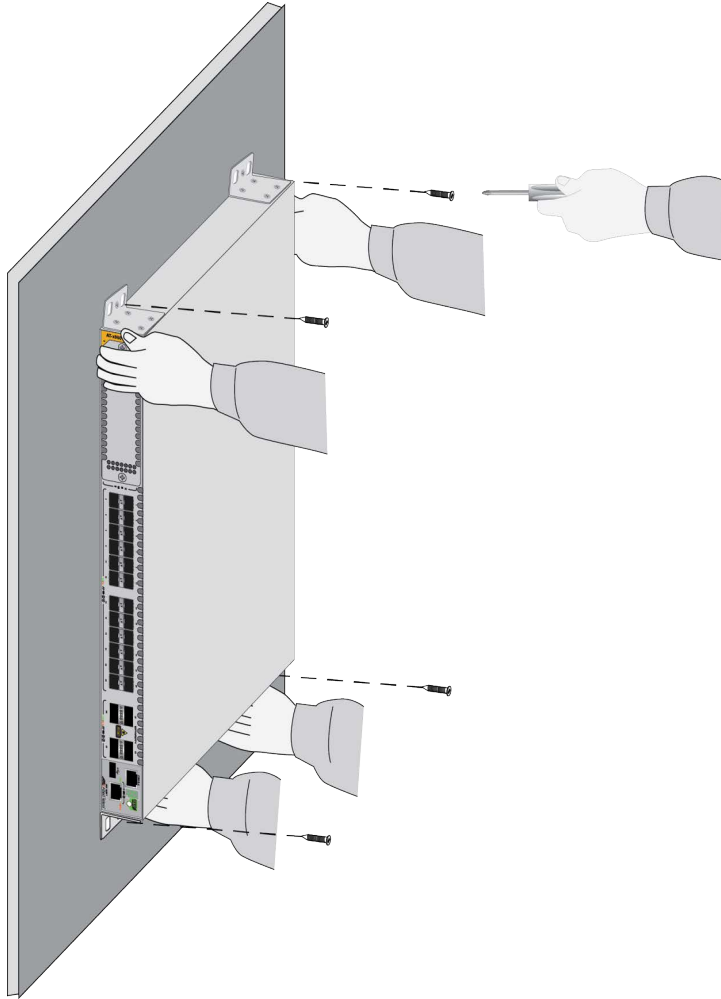

Figure 98. Installing the Switch on a Concrete Wall
7. Have two people hold the switch at the selected wall location while you secure it to the wall with the four provided screws. Refer to Figure 98.